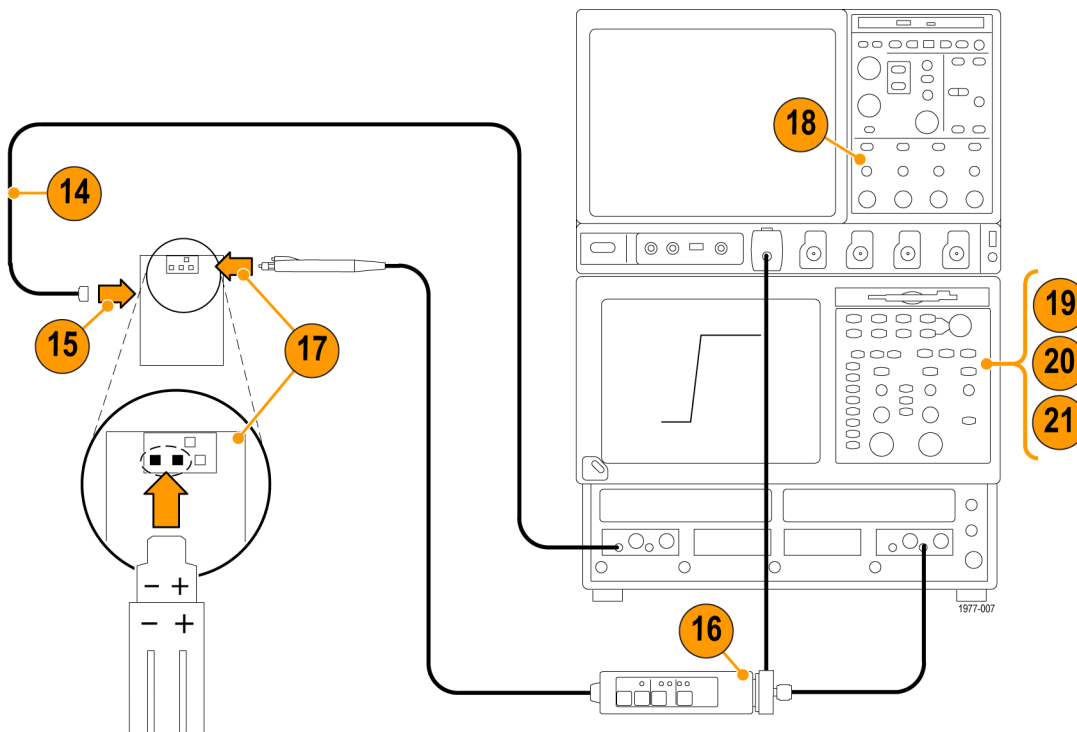

Figure 19: Probe rise time setup
14. Disconnect the SMA cable and BNC adapter from the Channel-1 side of the TekVPI Calibration fixture. (See Figure 19.)